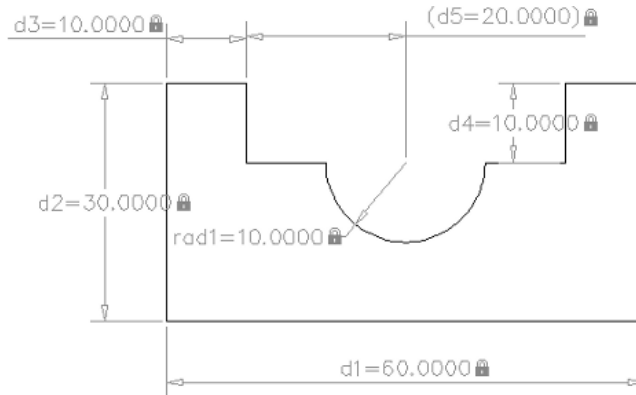

Figure 11-32 Sketch with all dimensional constraints
7. Choose the **Create a reference dimension** option from the message box. The value **20** is displayed in parenthesis stating that it is a reference dimension. The sketch after applying all dimensional constraints is shown in Figure 11-32.